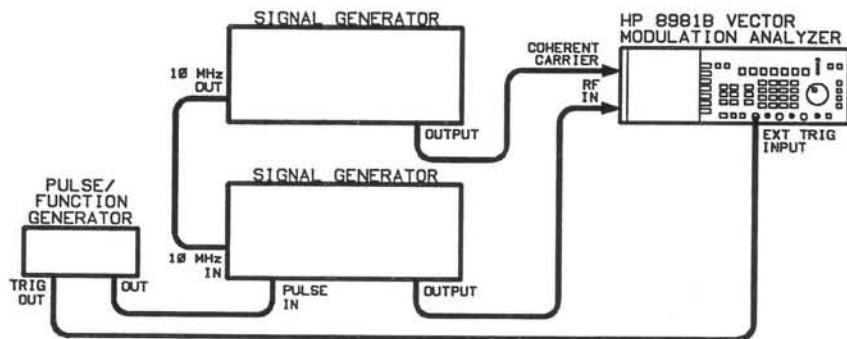

Figure 4-15. I vs Q Timing Accuracy Test Setup
2. Connect the equipment as shown in Figure 4-15.